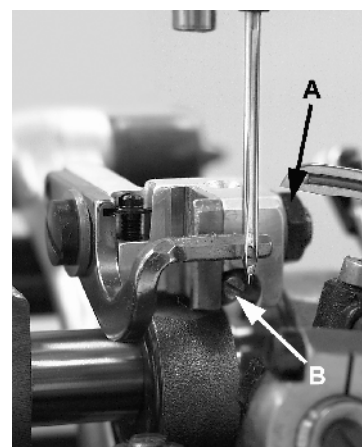

Fig 11
Parallel adjustment can be made by loosening nut (A, Fig. 11) and turn screw (B) clockwise to lower front of feed dog, counterclockwise acts the reverse. When properly set, retighten nut (A).